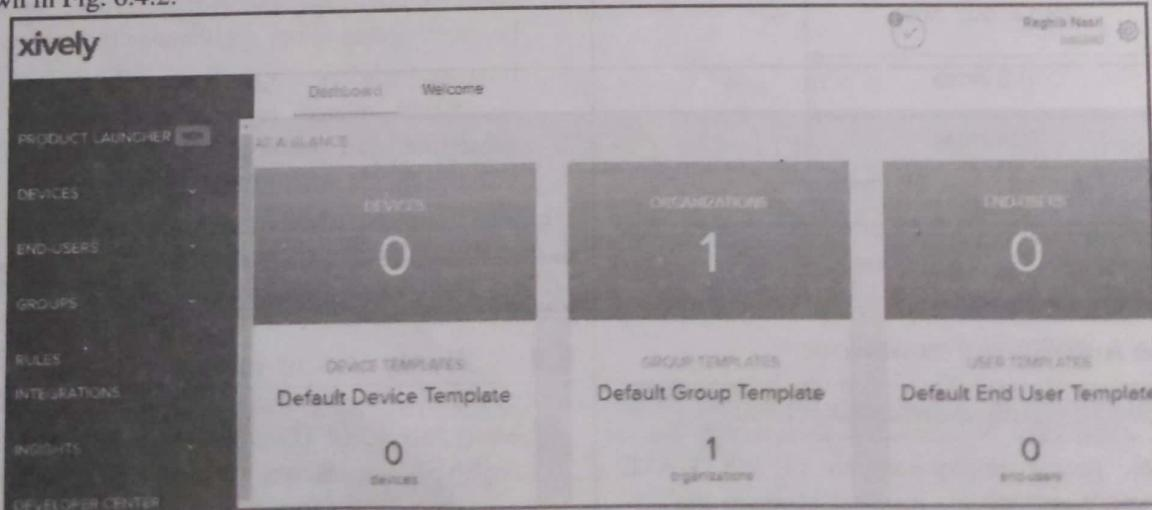

Fig. 6.4.2 : Xively Dashboard
- Xively web interface offers a Xively dashboard which offers several services and activities. The Xively dashboard is shown in Fig. 6.4.2.